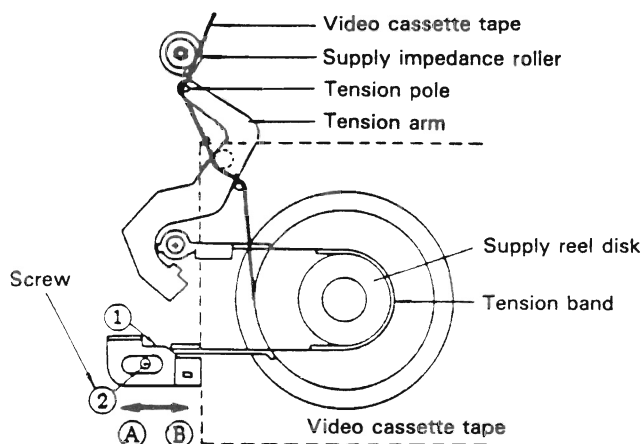

Figure 1-12.
• Position adjustment (Fig. 1-12)
1. If the tension pole is more than 1.0 mm to the right of the supply impedance roller's center, shift the tension band control bracket ① in the direction of arrow → B, and tighten the screw ②.
2. If the tension pole is less than 0.6 mm to the right of the supply impedance roller's center, shift the tension band control bracket ① in the direction of arrow → A, and tighten the screw ②.